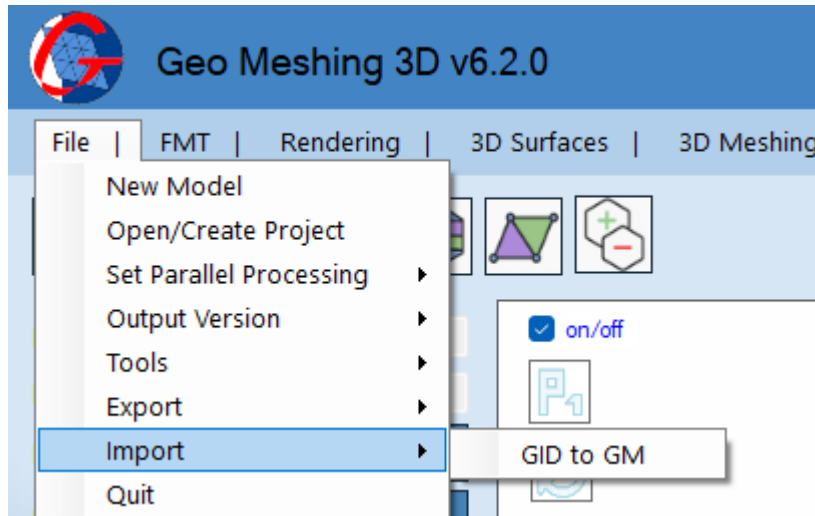

Figure 21: File Menu – Import.
- **File Menu, Import:** This option (shown in Figure 21) has a submenu with *GID* to *GM* option.